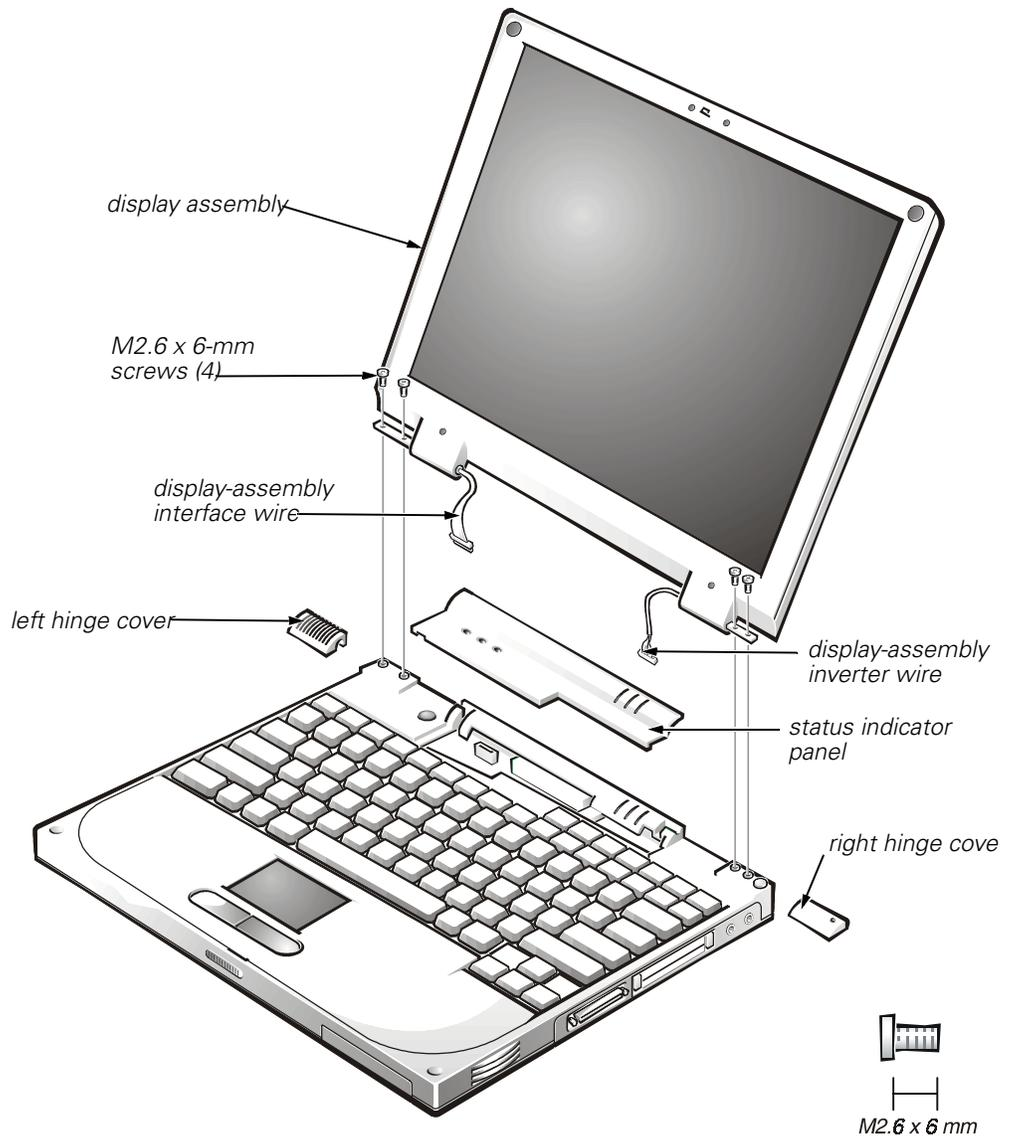

Figure 10. Display Assembly Removal
3. Remove the two M2.6 x 6-mm hinge screws that secure the right hinge to the bottom case (see Figure 10).
3. Remove the display assembly (see Figure 10).